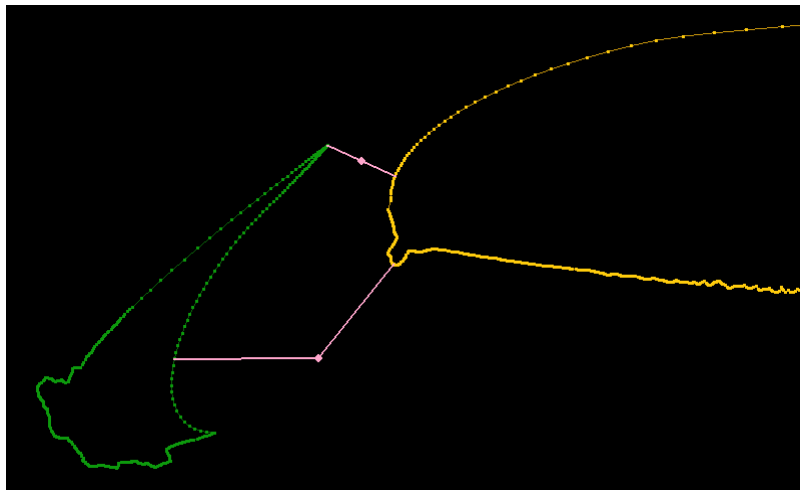

Figure 30. Link lines for link between main and slat elements. Only the lower link line is modified from its default position.
- The closest element to the left of the current object is found, and an initial link is created. Leave the upper line with the default point locations, but drag the endpoints of the lower line so it is between point index 138 on the main element and 272 on the slat. Drag the mid-point of the lower line so that it is located in the position shown in Figure 30.